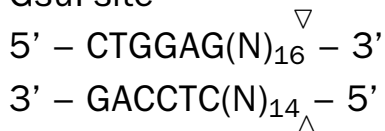

Fig. 2. Sfil and Gsul recognition sites.
Commentary: The adapters contain asymmetric sites for SfiI restriction (SfiA and SfiB; Fig. 2). Being incorporated at the 5' and 3' ends of the cDNA the sites allow directional cloning of the cDNA library. After digestion with SfiI restriction endonuclease and size fractionation, synthesized cDNA can be ligated into an appropriate SfiI-digested vector. Since SfiI digestion cuts off the excessive parts of flanking adapters, it also makes the resulting cDNA perfectly suitable for SOLiD or Illumina sequencing.
- CDS-Gsu adapter contains a Gsul recognition site (Fig. 2) just upstream of the unmodified poly(T) sequence. Gsul is a type II restriction enzyme that cuts cDNA within the poly(A) tail, reducing its length so that all subsequent sequences start with a shorter run of thymidines.